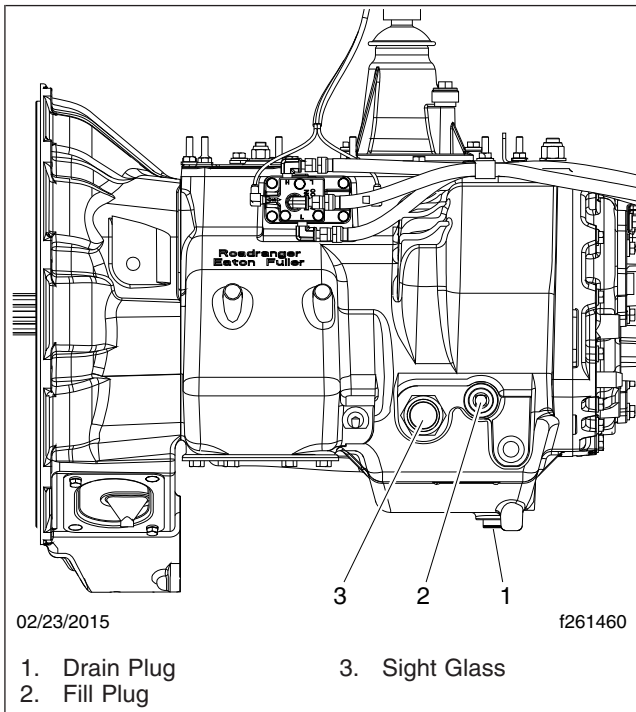

Fig. 6, Eaton Fuller Transmission With a Sight Glass
1. Clean the oil level sight glass. See **Fig. 6**.